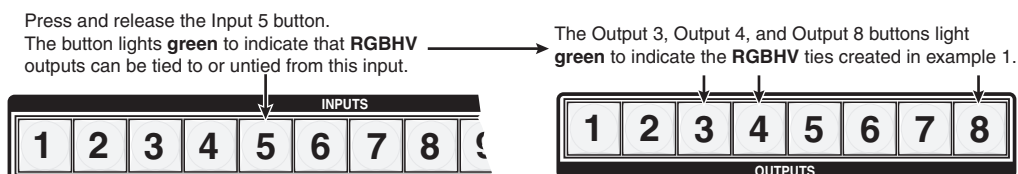

Figure 3-11 — Select an input
3. Press and release the input 5 button (figure 3-11).